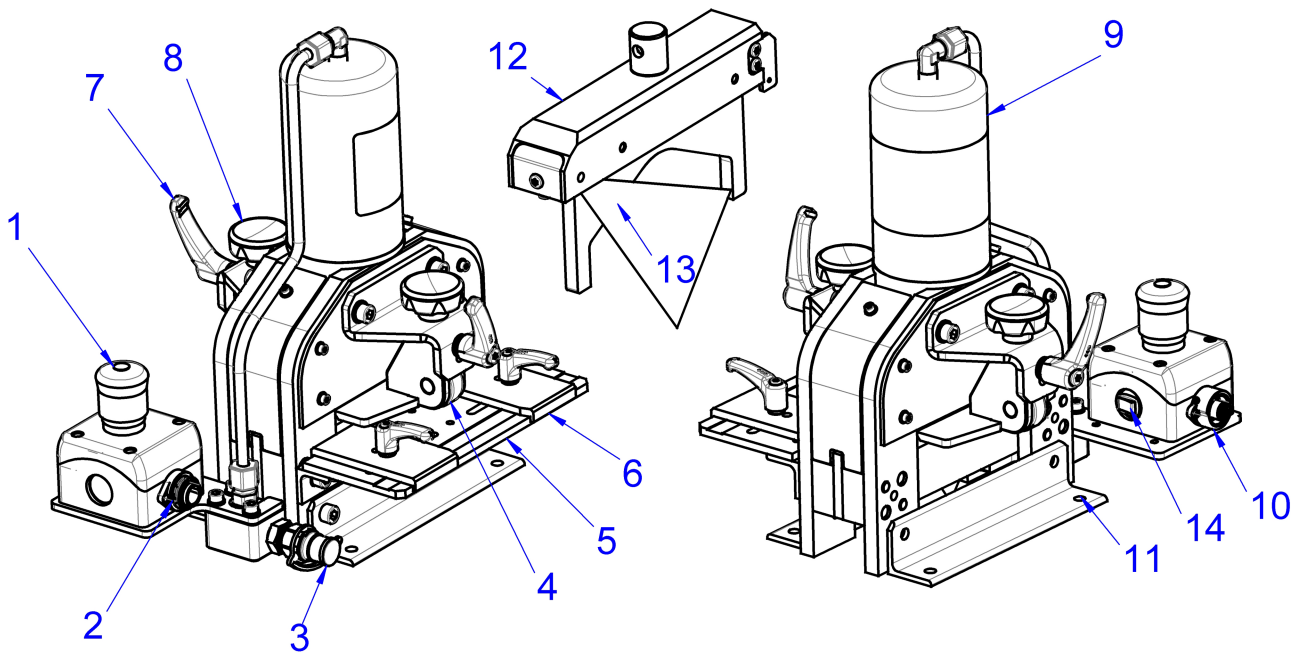

Fig. 1: Front and rear view
- Connect the hydraulic hose to the hydraulic connection (fig. 1, 3) and the electrical control cable to the electrical connection (fig. 1, 2) of the unit.
- Then insert the supply cable of the foot-operated switch in the 4-pole connector (fig. 1, 10).
- In a dangerous situation, press the red emergency stop switch (fig. 1, 1) on the unit to stop the operation!
- Loosen the clamping levers on the side guide plates (fig. 1, 6) of the supporting table and set the guide plates to the width of the busbar.
- Now introduce the busbar from the side of the support roller (fig. 1, 5) starting in the cutting unit.
- Loosen the clamping screws (fig. 1, 8) of the two retainers and set them to the material thickness of the workpiece.
- Actuate the switch for the laser (fig. 1, 14) to switch on the line laser.